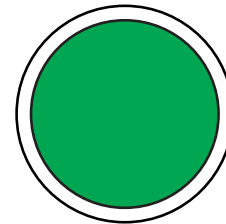

Figure 46. Circuit Breaker ON Button (ON/GREEN)
- Press the **Circuit Breaker ON button** (Figure 46). The button LED will turn **ON (green)** and power will be supplied to the output terminals and receptacles.
3. The main circuit breaker will automatically turn **ON** after the engine starts. Observe that the LED on the **Circuit Breaker ON button** has turned **ON (green)**. See Figure 46.